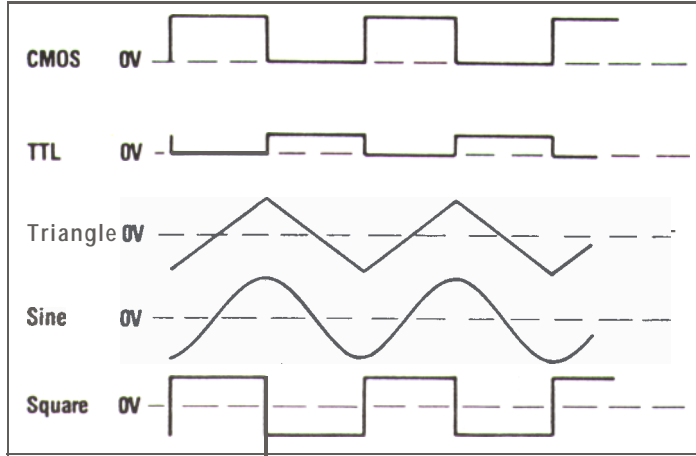

Fig. 2. Output Waveform And Phase Relationship.
4. Select the waveform desired (square, triangle, or sine) by depressing the appropriate FUNCTION switch. The phase relationships of the waveforms available are shown in Fig. 2. Be sure that the DUTY control is set to CAL.